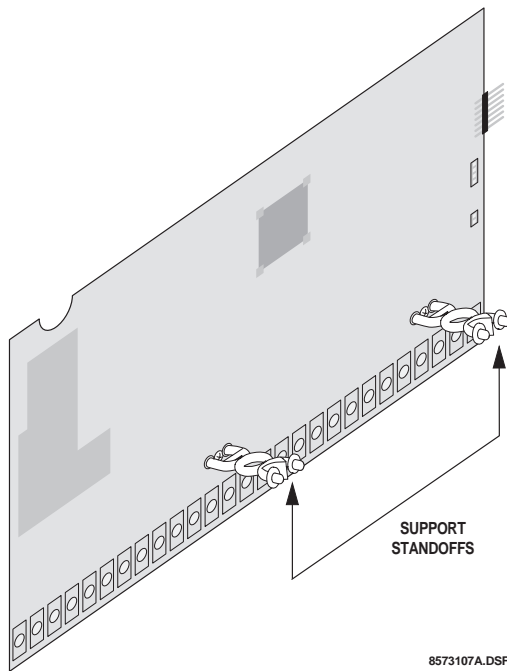

Figure 17. Installing the Support Standoffs
- Install the standoffs at the locations shown in Figure 17.